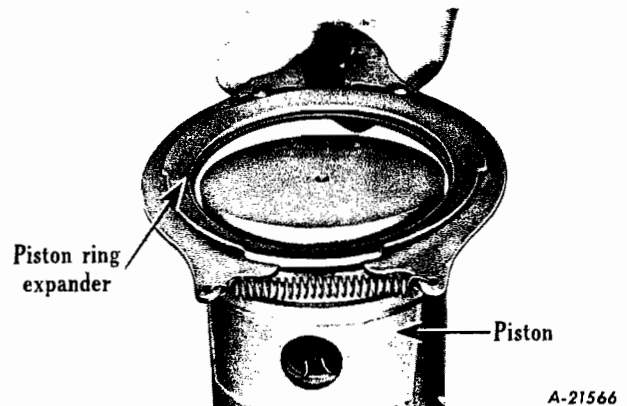

Fig. 41 - Installing piston ring using SE-1149-6 Ring Installing Tool.
2. When installing piston rings in piston grooves, be careful not to distort rings. If possible, use a suitable piston ring expander tool (Fig. 41). Also check new piston rings in piston ring grooves for clearance between ring and ring lands. The correct ring clearance is shown in specifications.